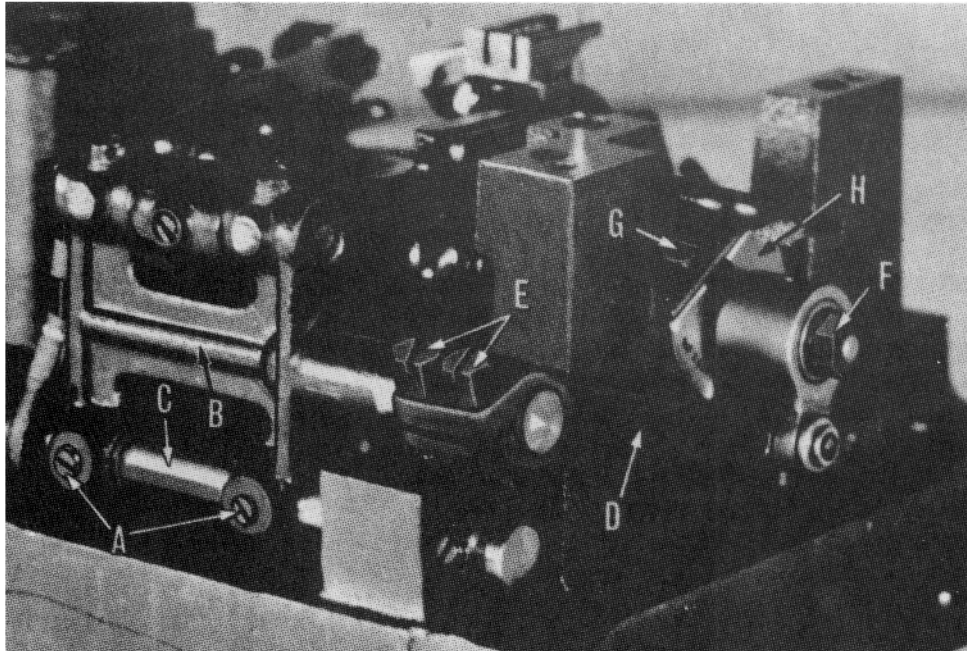

Fig. 11
Should it be necessary to move the feed dog to the left or right, loosen screws (A, Fig. 11) which hold the feed rocker (B) onto the feed rocker shaft (C), and move feed rocker to desired position and retighten screws. Make sure that the feed rocker arm (D) does not bind after making this adjustment.
Set the stitch to required length. This is accomplished by loosening the lock nut (F, Fig. 11) (it has a left hand thread) on the end of the stitch regulating stud and turning the stitch adjusting screw (G) located under the left end of the cloth plate, in the head of the main shaft (H). Turning screw in a clockwise direction shortens the stitch, and turning screw in a counterclockwise direction lengthens the stitch.